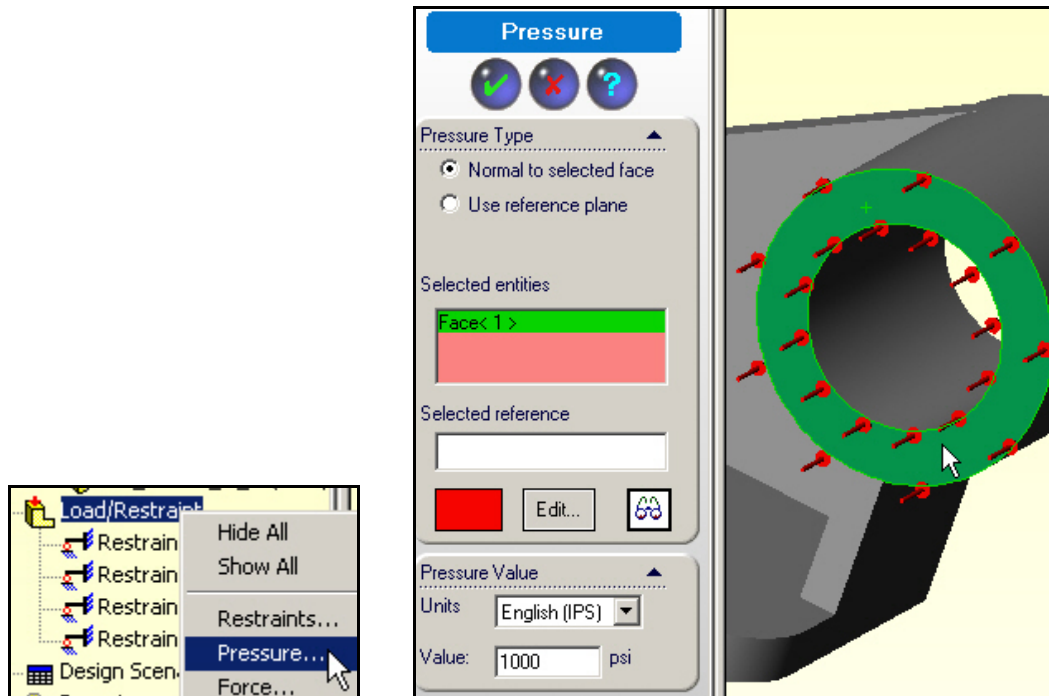

Figure 15 Applying the constant pressure loading
1. **Loads/Restrains**→**Pressure**. In the **Pressure** panel give the **Pressure Type** as normal to the face, set the units and value (1,000 psi) and preview the arrows to verify the direction (sign of the pressure), as illustrated in Figure 15. Clearly, the resultant applied force will be that pressure times the selected surface area. Since SolidWorks is a parametric modeler remember that if you change either diameter of the tube the area and the resultant force will also change.